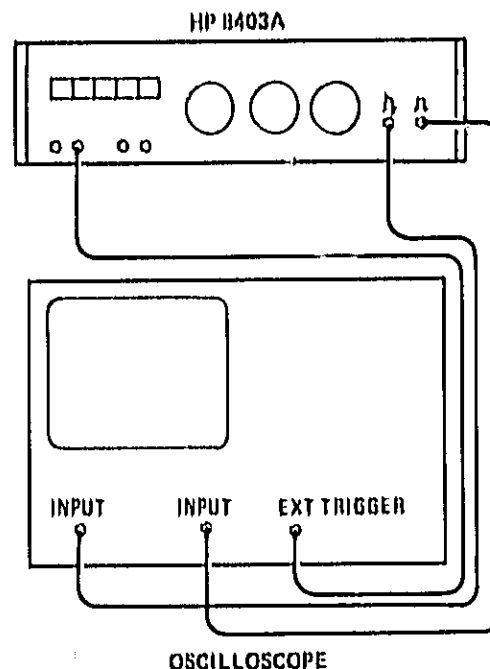

Figure 5-1. Dial Calibration
a. Connect B403A as shown in Figure 5-1.
- a. Connect B403A as shown in Figure 5-1.
- a. Connect B403A as shown in Figure 5-1 using 10041A (X 10 Voltage Divider Probe) in place of coaxial leads going to J_1 and J_2 pulse outputs from oscilloscope.